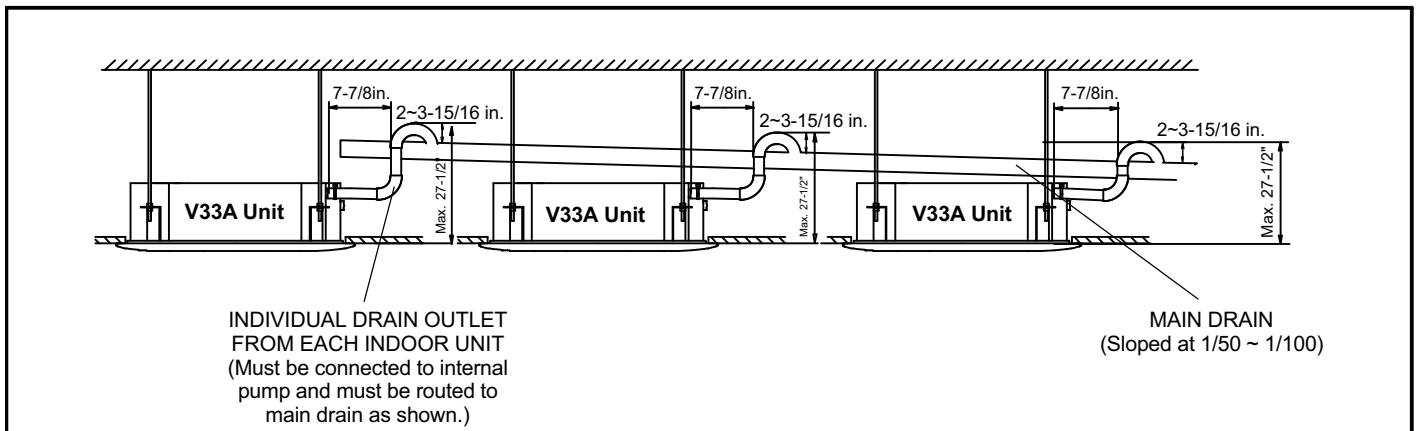

Figure 10. Using a Main Drain to Serve Multiple Indoor Units
- 4 - See figure 10 for applications including multiple units using the internal pump to provide lift into a single, correctly sized main drain. In this case, ensure that the main drain line is properly sloped (no less than 1/4 inch per foot) and that each individual drain is connected to the main drain exactly as shown.